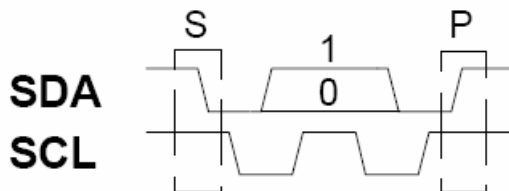

Figure 2. I2C protocol definitions
Two wire I2C bus protocol has special bus signal conditions. Figure 2 shows start (S), stop (P) and binary data conditions. At start condition the SCL is high and SDA has falling edge. At stop condition
Each I2C bus operation like write starts with start command (see figure 2). After start the H28 device address with write bit (AW, see table 2) is sent and ended to acknowledge (A). After this control register address (AC, see table 3) is sent
and ended to acknowledge (A). Next control register data (DC, see table 1) is written and ended to acknowledge (A). Finally the I2C bus operation is ended with stop command (see figure 2).